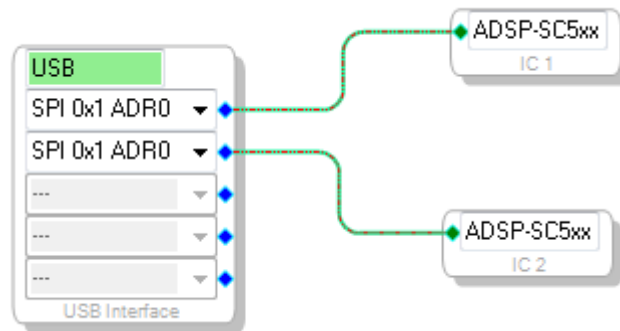

Figure 23: USBi to ADSP-SC5xx connection
7. Connect the first blue (output) pin of the 'USBi' to the green (input) pin of the 'IC 1' block. Connect the second blue (output) pin of the 'USBi' to the green (input) pin of the 'IC 2' block as shown in Figure 23